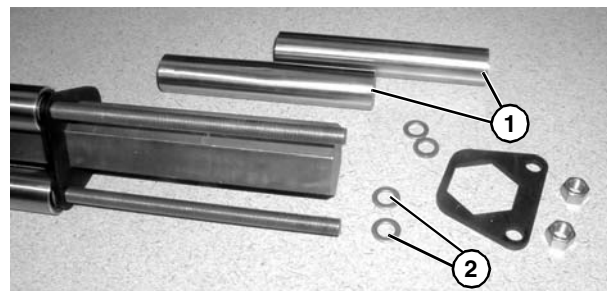

Figure 60
7. Remove pulleys (**Figure 60, item 1**) and additional washers (**Figure 60, item 2**).